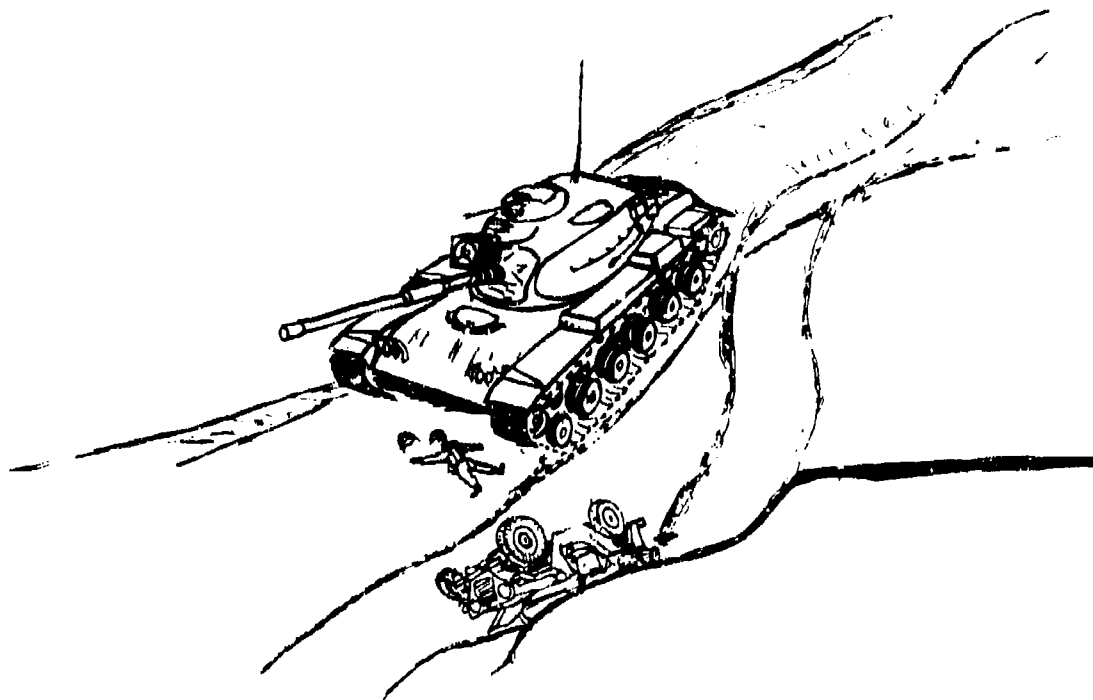

FIGURE 32. LOOK BEFORE YOU MOVE.
--"Look before you move." If the situation allows, you should inspect tracked vehicles for damage and any debris that may have blown into the tracks or under the hull. Some of this debris could include trees, radios, weapons, ammunition that could explode if crushed, and even injured personnel (see figure 32). Of course, armored vehicles placed over foxholes should not be moved until after personnel have evacuated the hole, in case the blast weakened walls collapse during movement.